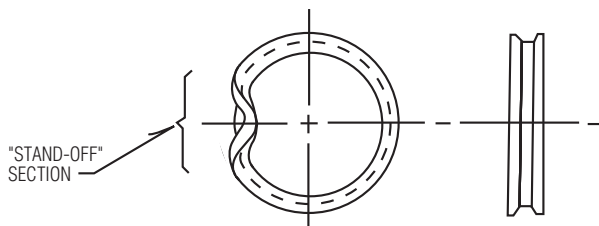

Figure 1 - “Stand off “ Section of Seal Ring
- iii. Carefully collapse valve seal radially with fingers just enough so it will go into body plug. This creates a “stand-off” section of the seal ring, as shown in Figure 1.